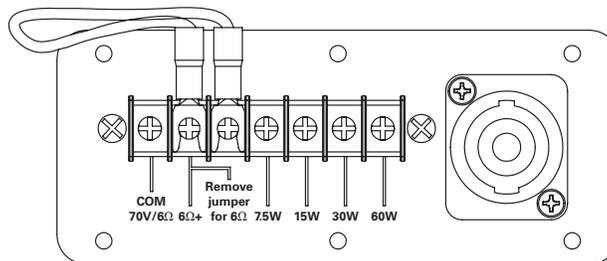

Fig. 4
5. Establish electrical connection. All models include a built-in, high efficiency 60 Watt 70.7V transformer with 7.5, 15, 30, and 60 Watt taps as shown in Fig. 4.